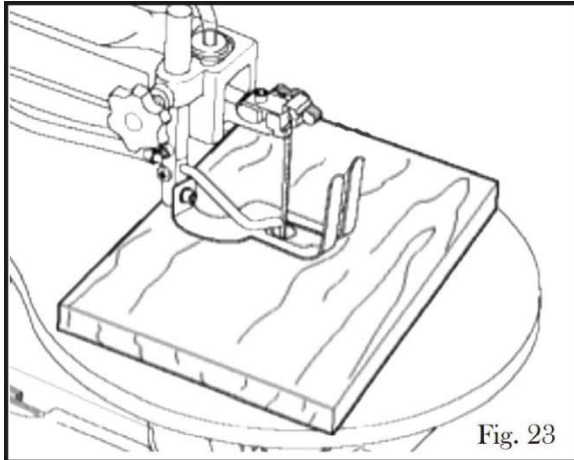

Figure 23
3. Place the workpiece on to the scroll saw table with the ¼" hole over the hole in the insert plate on the table. See figure 23.